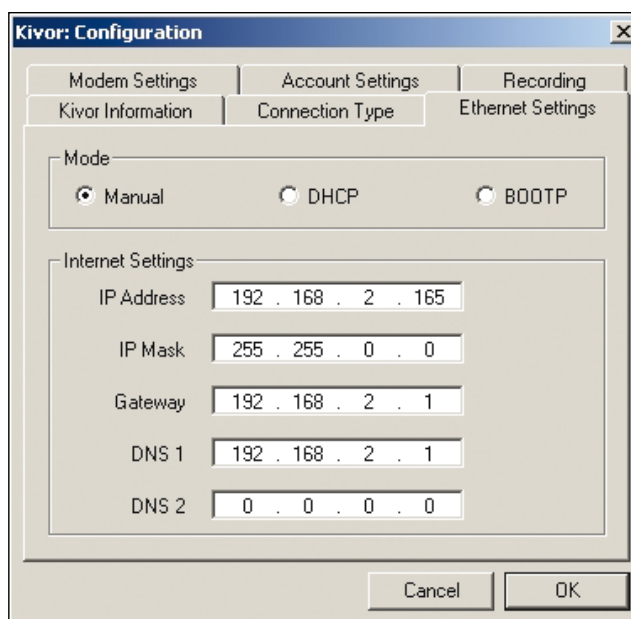

Fig. 1 - Linntek, KIVOR: Configuration – Ethernet Settings
9. Right-click on the Linntek title bar, choose **Configuration** from the menu and select the **Ethernet Settings** tab (see fig. 1).
11. Complete the **Internet Settings** for your network configuration (sample settings shown in fig. 1):